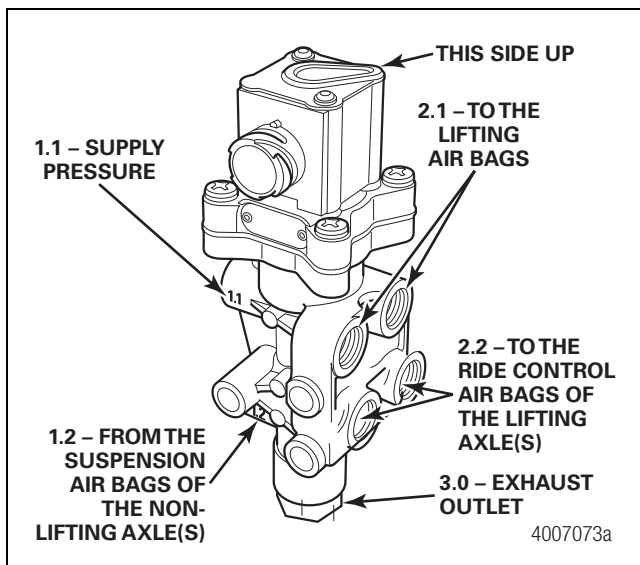

Figure 8
8. Ensure that the lift axle control valve is installed correctly. Refer to Figure 8.